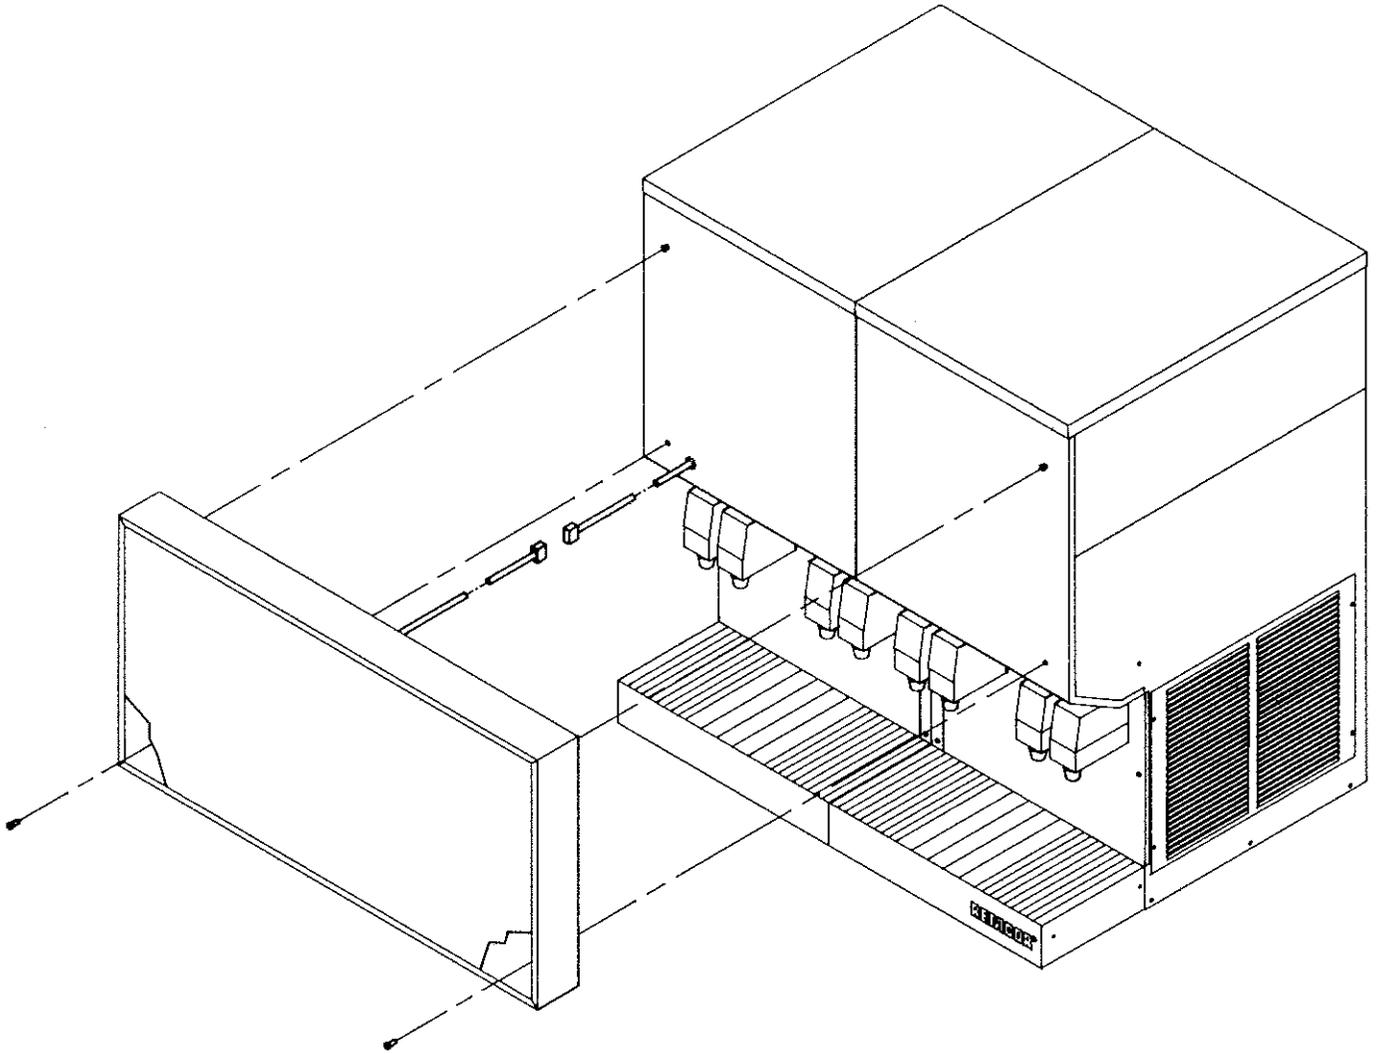

FIG. 3
6. Install two (2) screws supplied with the kit in the upper holes (#8 - 32) on the front panels of the units. Leave screws about 1/4 inch out from panel. The lighted display will "hang" on these screws. Complete the installation as shown in Figure 3.